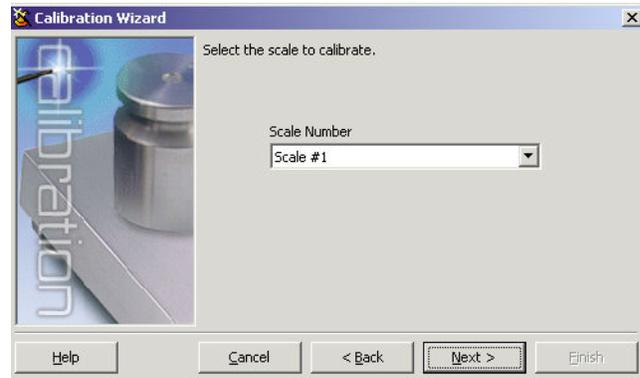

Figure 4-4. *iRev* Scale Selection Display
2. Next (see Figure 4-4), select the scale you wish to calibrate.